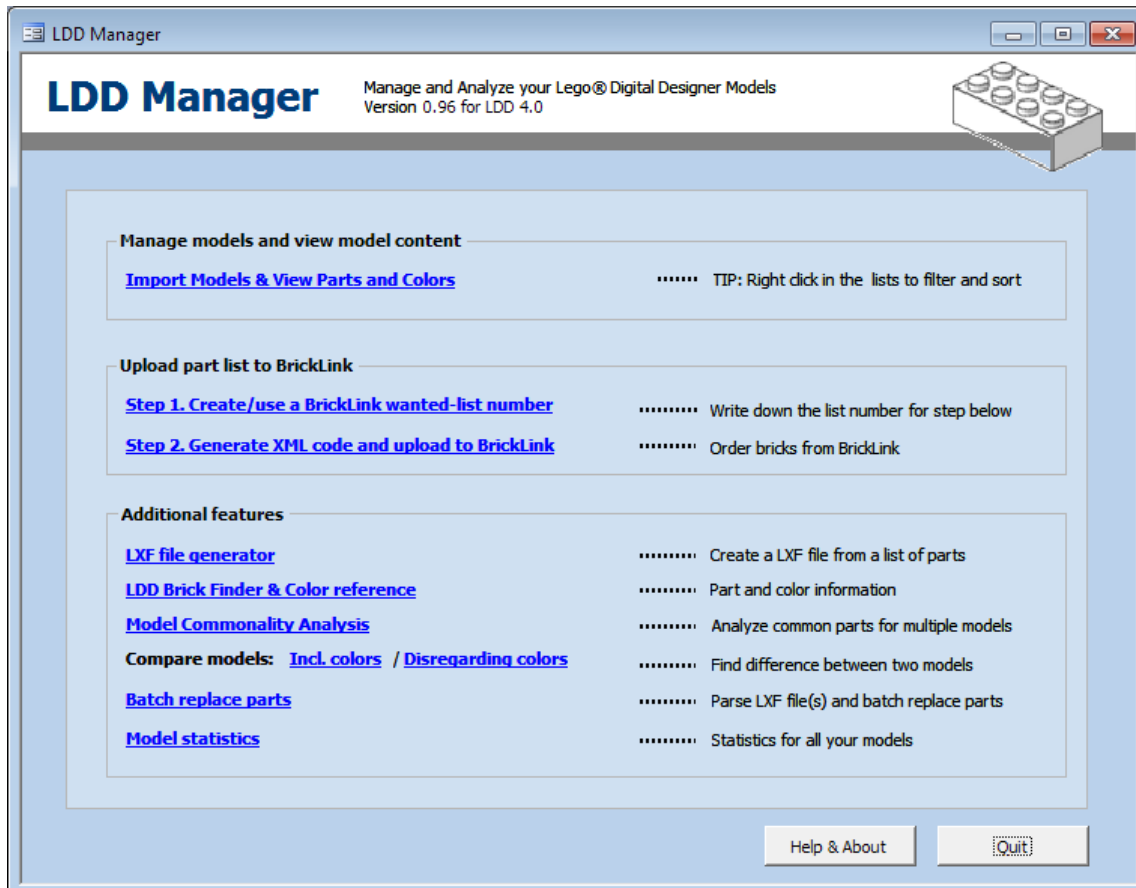

Figure 1 – LDD Manager Main Window
2. Click Continue to go on to a number of questions, one being what Wanted List to place the uploaded bricks in. Enter the number you created in step one (Ctrl-V). (Figure 1)